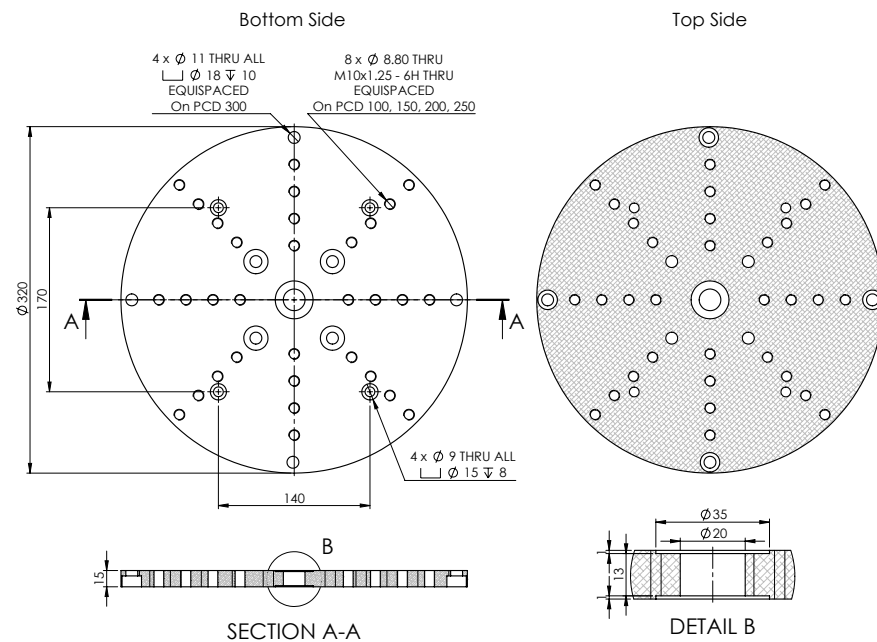

Figure 1.1: Schematic of the standard top plate for neutron instruments using a goniometer stage. Detail B shows the dimensions of the centering pin hole.
- Can it be mounted on the sample stage for the desired instrument? For example, see Figs. 1.1 and 1.2.